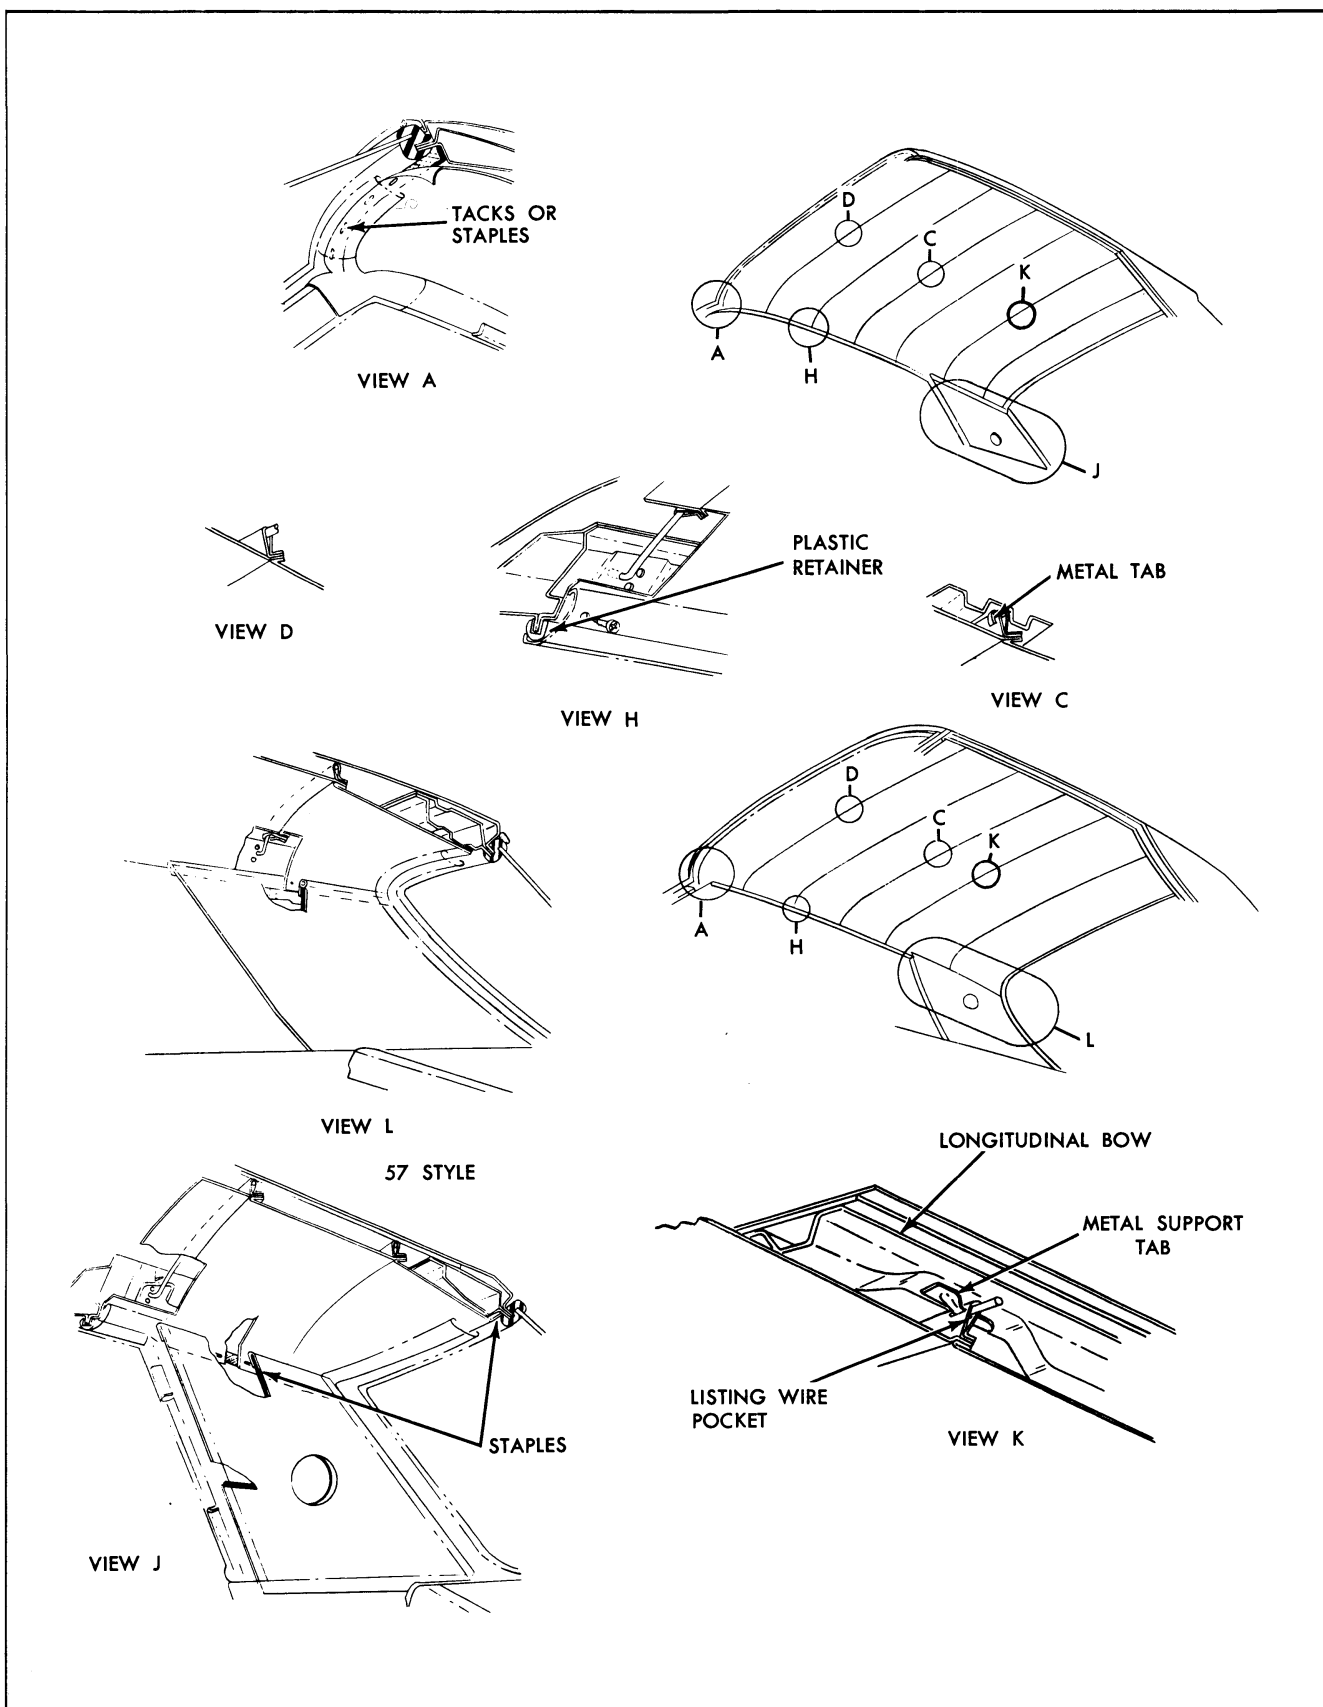
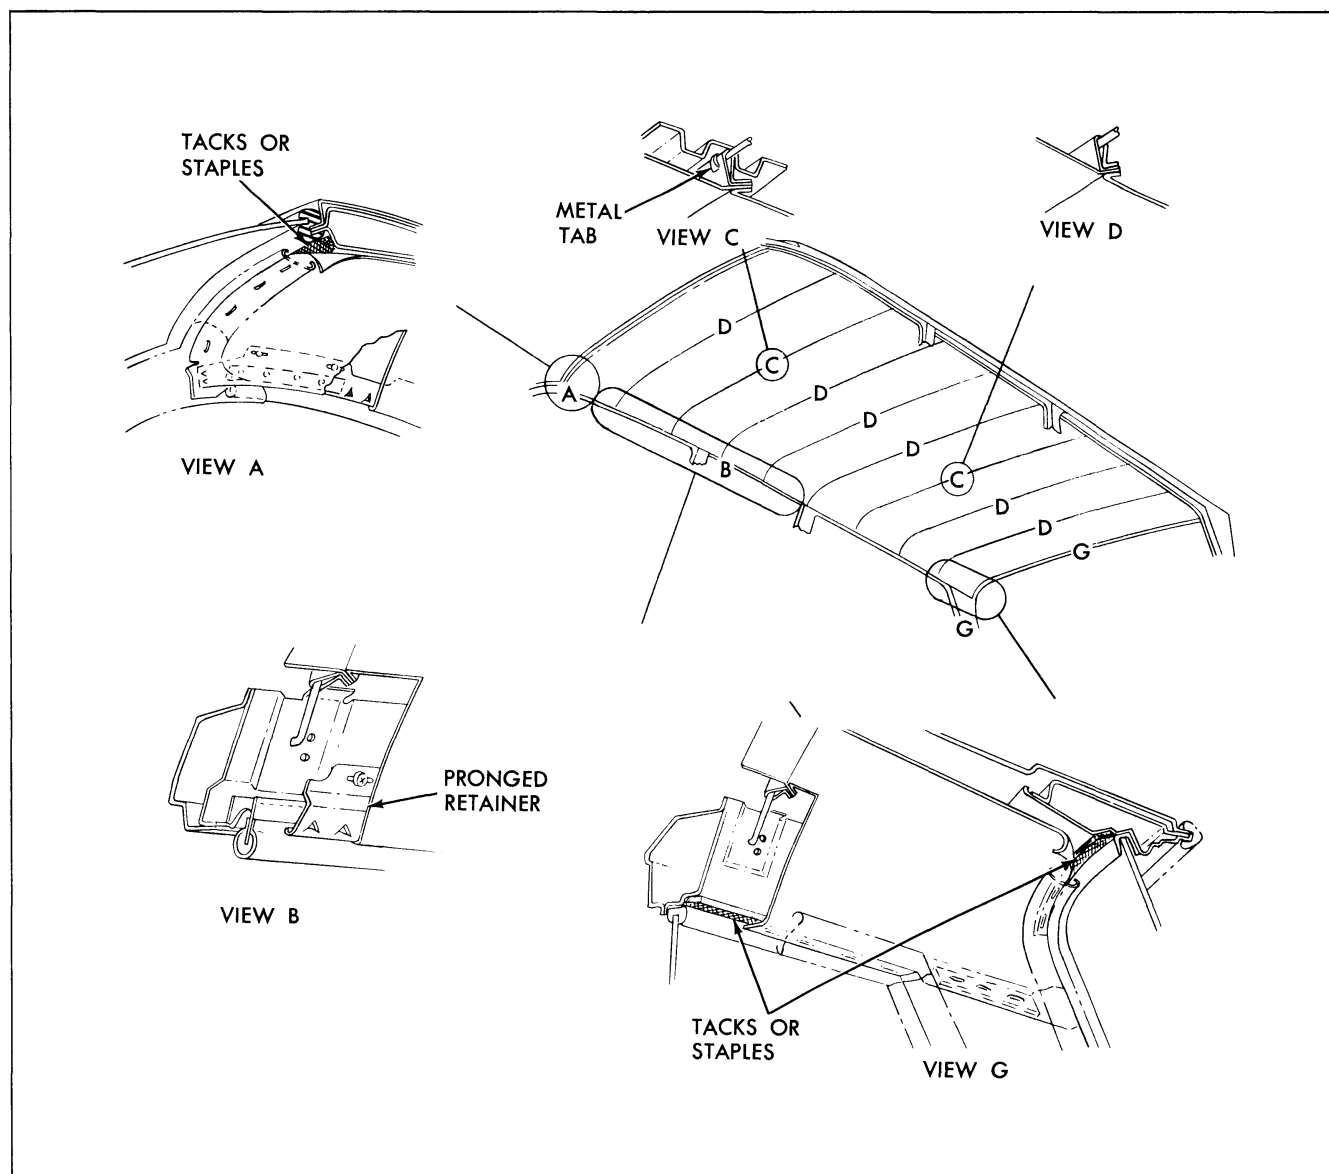
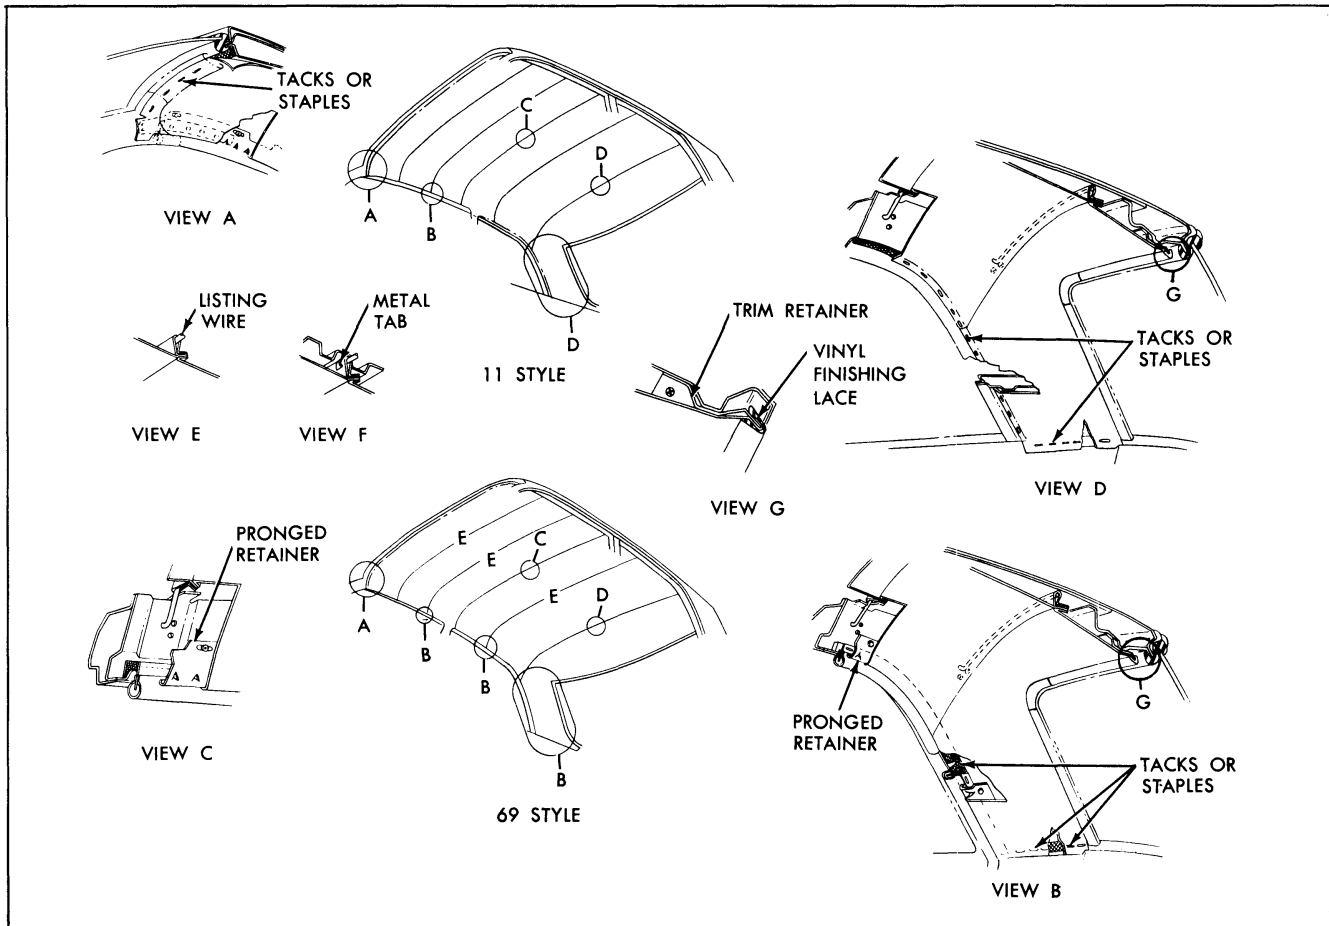

Fig. 7-1 Headlining Installation - 39 and 57 Styles
Fig. 7-2 Headlining Installation - 35 and 45 Styles
Fig. 7-3 Headlining Installation - 11 and 69 Styles
4. On 11, 69, 35 and 45 styles, use headlining inserting tool J-2772 or similar wide-bladed tool and carefully disengage headlining from pronged retainer on side roof rails over door openings. (view B, Fig. 7-2 and view C, Fig. 7-3).
- On 39 and 57 styles, remove plastic retainer from side roof rail pinchweld flange (view H, Fig. 7-1).
5. On 35 and 45 styles, remove tacks or staples securing headlining at rear quarter windows (view G, Fig. 7-2).
6. On 11 and 69 styles, remove back window finishing lace (view G, Fig. 7-3).
7. On 2311 style, remove tacks or staples securing headlining at rear quarter windows (view D, Figure 7-3).
manner, working from rear of body disengage remaining listing wires (except No. 3) (see view K, Fig. 7-1). Keep headlining material clean.
12. At No. 1 roof bow, bend down metal tabs securing No. 3 listing wire (see view C, Fig. 7-1).
4. Working forward on 11, 35, 45 and 69 styles, install ends of listing wires in holes in side roof inner rail assemblies. Bend up metal tabs at roof bow securing listing wire and listing wire pocket (see view F, Fig. 7-3 and view C Fig. 7-2).
5. On 39 and 57 styles, install No. 3 listing wire and listing wire pocket over metal tabs on No. 1 roof bow. Bend up metal tabs so listing wire is securely fastened to roof bow (see view C, Fig. 7-1). Be certain headlining material is centered in body. If new headlining is being installed, slit listing wire pockets at each tab location on longitudinal bow (approximately 1 1/2" in length) (see view K, Fig. 7-1). Working rearward from No. 3 listing wire, install listing wires into holes in side roof inner rails and over tabs on longitudinal bow. In like manner, working forward, install No. 2 and No. 1 listing wires.
9. Carefully tuck edge of headlining material under pronged retainer above door openings on 11, 35, 45 and 69 styles (see view C, Fig. 7-3). Using
headlining inserting tool, permanently install edge of headlining around pinchweld flange of door openings on 39 and 57 styles (see view H, Fig. 7-1).
12. Permanently secure headlining by tacking at windshield, back window and upper rear quarter areas (see views A, B, and D in Fig. 7-3, views A, J, and L in Fig. 7-1, view A and G in Fig. 7-2).
13. Install plastic retainer along pinchweld flange of door and quarter window openings on 39 and 57 styles (see view H, Fig. 7-1.) Retainer should be evenly installed.